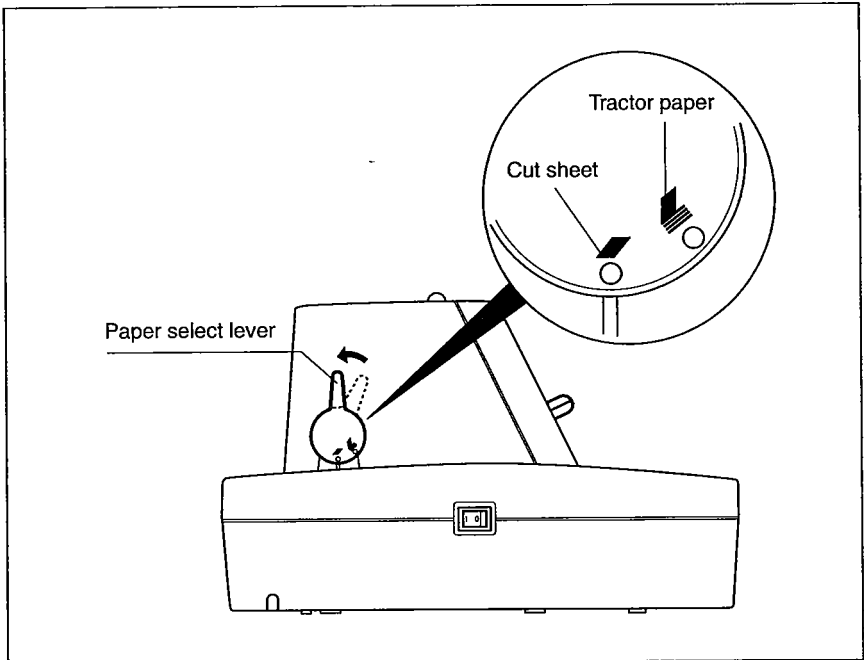

Figure 3-2 Setting the paper select lever
- 2 Set paper select lever toward the back of printer as shown in Figure 3-2.